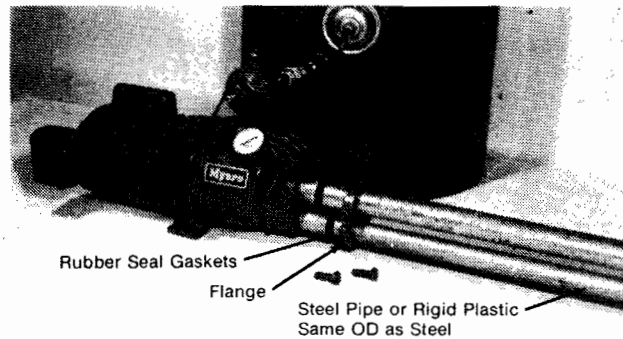

Figure 9
5. When steel pipe or rigid plastic pipe of same O.D. as steel pipe is used, it is sealed directly to pump case without fittings. (See Fig. 9).